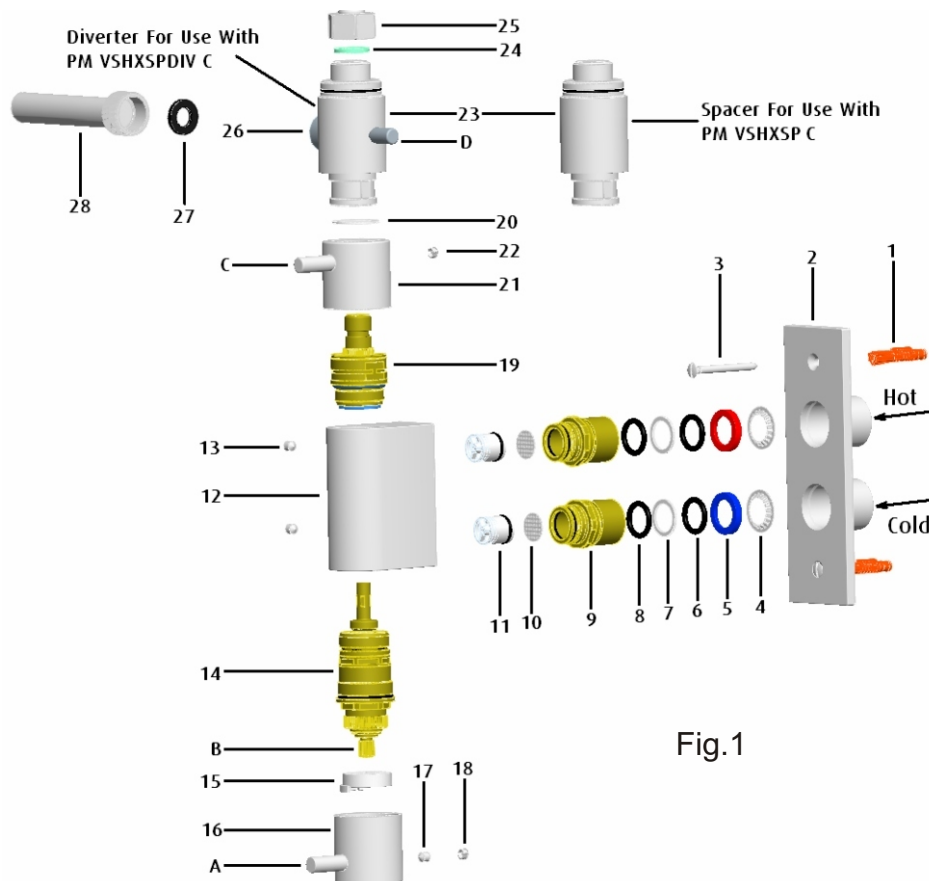

Fig.1
4.1 Pre-Installation (See Fig.1 & 2)
4.2 Installation (See Fig. 1,2,3,4,5 & 6)
Ensure Hot supply feeds upper inlet, and Cold feeds lower inlet as shown (see Fig.1, page 3).
4.3.6 Connect the shower hose (28) (cylindrical end) to the diverter connection (26) ensuring that the washer (27) is fitted. Connect the other end (42, conical) of the hose to the handset (44) ensuring that the washer (43) is fitted.
5. Operation (See Fig.1, 2 & 7)
4.2.2 With rear access valve body installation (both valves) (See Fig.1, 2, 3, 4, 5 & 6).
4.3 Fitting the Shower Pole (See Fig.1 & 2 Pages 3 & 4).
Shower Pole with integral Diverter Only (See Fig.1 & 2 Pages 3 & 4).